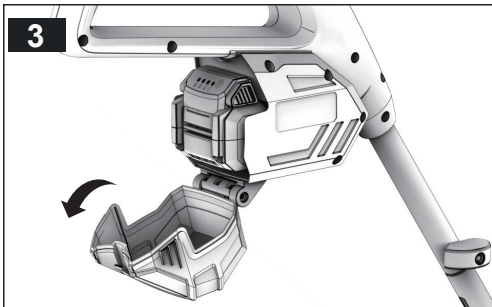

Fig. 8
- a. Open the battery pack compartment cover. (Fig.8)